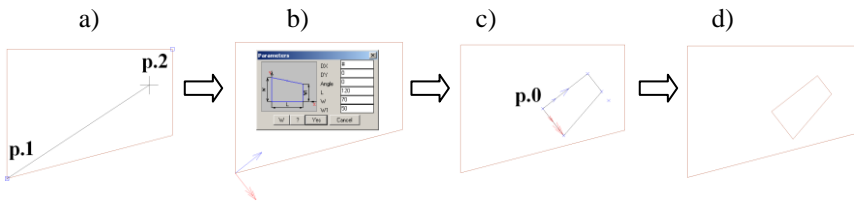

Fig. 4.15 “Opening” operation, example 2.
Allows you determine X-axis operation CS by specifying two Part points, see fig. 4.15. More details see below.
*redefine base point #N / *direction along CS of object #C / 1-st direction point:* Specify the first Part point to determine X-axis of the operation CS, see fig. 4.15 a), point “1”
2-d direction point: Specify the second Part point to determine X-axis of the operation CS, see fig. 4.15 a), point “2”.
Enter the opening parameters and the opening position parameters in the dialog window, see fig. 4.15 b).
*rotation angle #E / reverse X #X / reverse Y #Y / reference point #N / *apply #G:* Press **Enter** to create the opening as you see in the preview view, see fig. 4.15 c).
Note. You can center opening base point (see fig. 4.15 c), point “0”) concerning line determined by point “1” and point “2”. To do this, enter “#” sign in “DX” parameter. To center the opening base point concerning Y-axis, you should specify additional points (see “1-st centering point on Y” request).